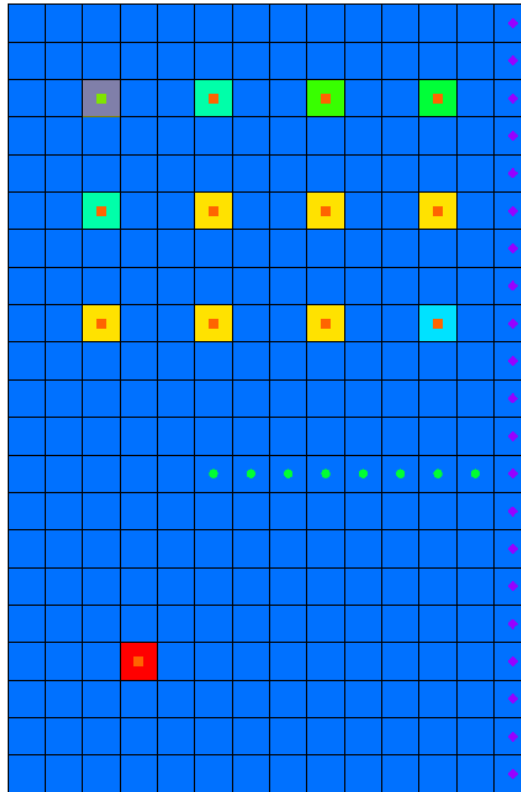

Figure 8 Selected MNW well cell
7. Using the **Select Cells**  tool, select the top left well cell (Well-A, Cell ID: 31, see Figure 8).